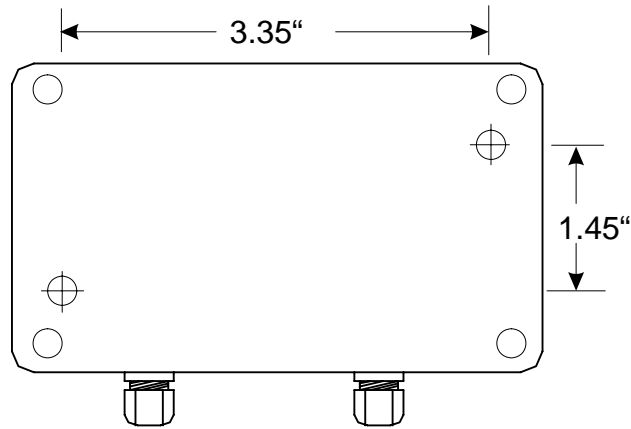

Figure 6 Junction Box Mounting Dimensions
Open the junction box enclosure and use the two holes to screw the enclosure in place (mounting screws are user supplied). See Figure 6 for dimensions. Place the junction box within 20 feet of the sensor, in an area that is protected from excessive fumes or moisture. Locate the cable entry on the bottom to minimize leakage problems.
- To check the sensor, check the sensor electrical connections to the terminal strip (refer to Figure 6). Make sure that the correct colors go to the correct terminals and the connections are tight. Restore power and see if the conductivity is back to normal.